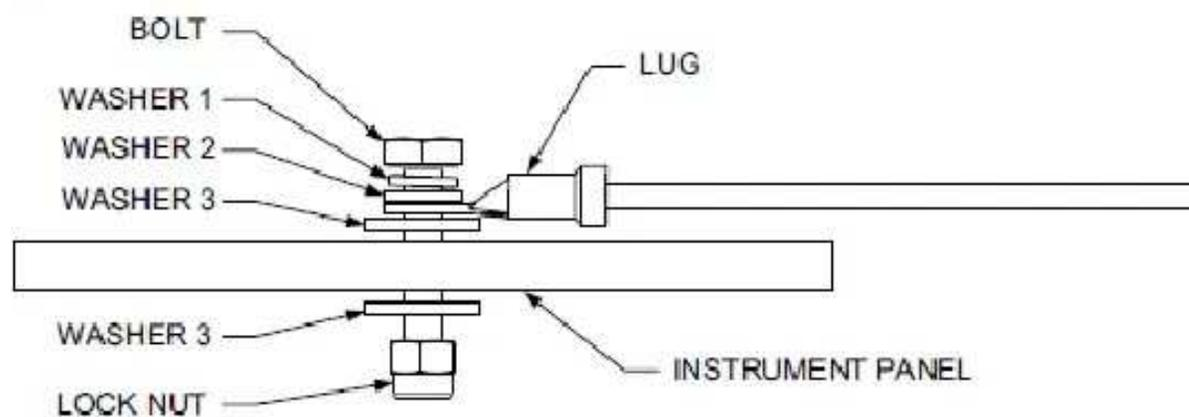

Figure 3-10 – Instrument Panel Bonding
If the instrument panel in which the GMC 507 is installed is electrically isolated from the aircraft structure, it must be bonded to the aircraft structure for this installation. See Figure 3-10. The instrument panel bonding strap length should be as short as possible and must not exceed six inches in length. The installation must avoid the bonding strap looping back on itself. See section 3.5.2.1 for hardware specifications. Use the surface preparation steps provided in section 3.5.1. Complete the installation using the following procedure along with the guidance in AC 43.13-1B, AC 43.13-2B and aircraft make/model specific structural repair documentation, as necessary. Construct a bonding strap by attaching 5/16" inside diameter terminal lugs to both ends of the braid. Install the bonding strap with the following procedure:
- Lock washer, 5/16", NASM35338-45 (Figure 3-10, washer 1)
- Flat washer, 5/16", NAS1149F0532P (Figure 3-10, washer 2)
- Flat washer, 0.063" thick NASM970-5 (AN970-5) (Figure 3-10, washer 3)